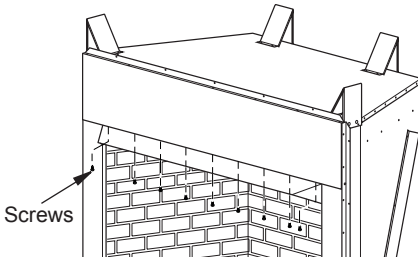

Figure 17 - Screw and Hood Placement
1. Attach hood to firebox using screws provided (see Figure 17, page 29).